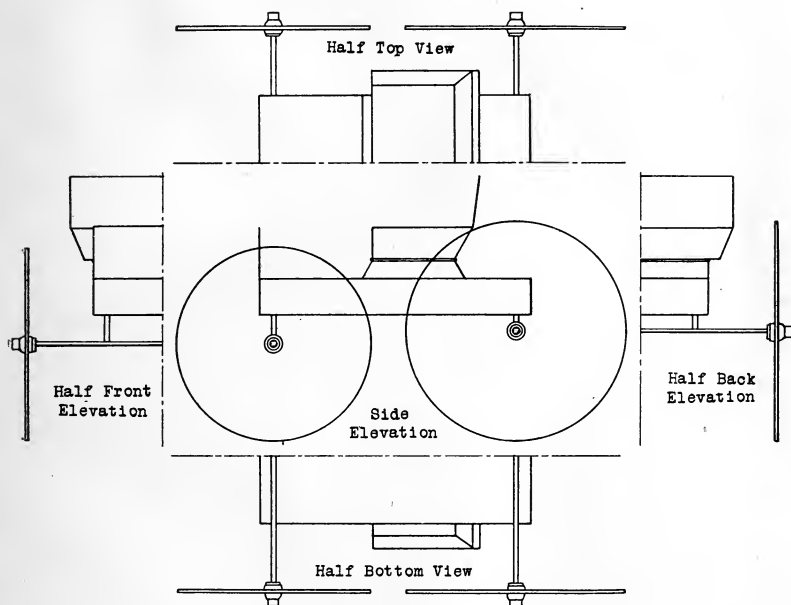

Fig. 15. Arrangement of Views.
3. **ARRANGEMENT OF VIEWS.** The different views of an object should be located as per Fig. 15.